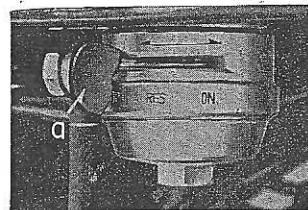

Fig. 3
1. Open the fuel tap **a** in the position of "ON". (fig. 3)